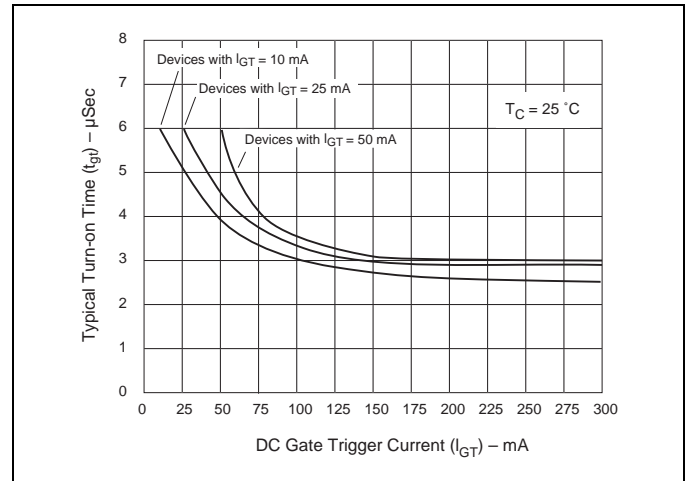

Figure E2.15 Turn-on Time versus Gate Trigger Current (Typical)
- See Figure E2.15 for t_{gt} versus I_{GT} .